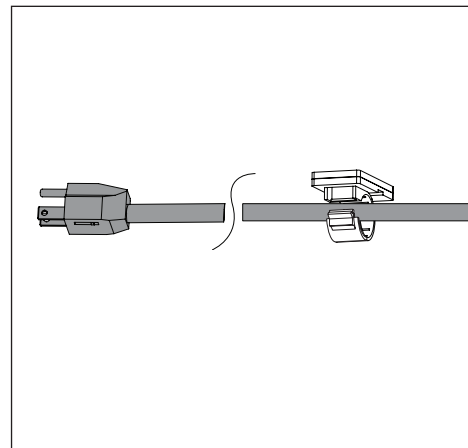

Figure 1.9
9. Secure each cord clip to the ceiling. Then insert the cord into each clip and press the clip closed to secure the cord. Note: Leave adequate slack near the fan to allow fan to swivel and/or tilt (Figure 1.9).